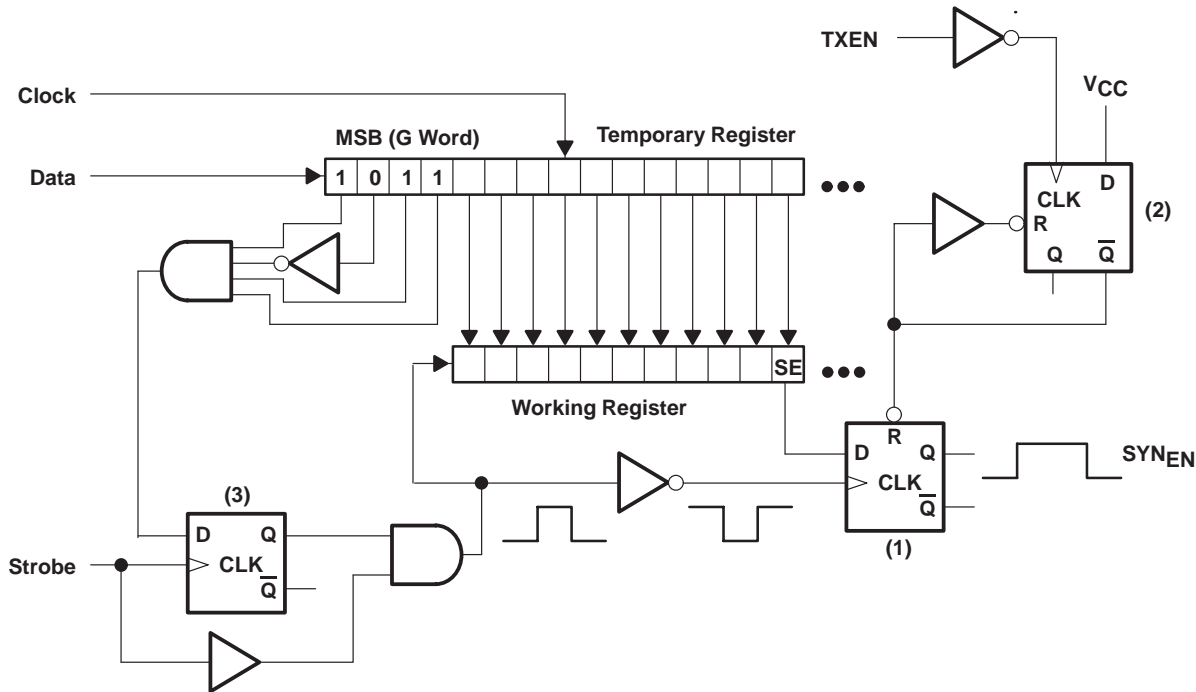
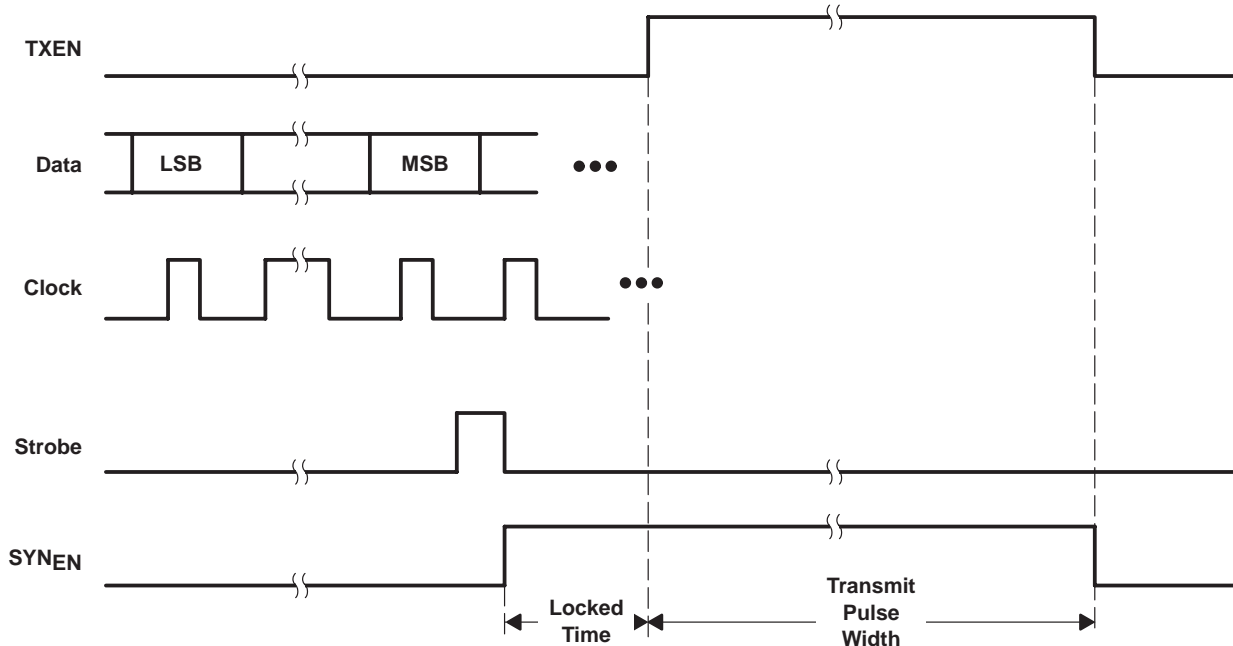

Figure 14. Transmit Intermediate Frequency Synthesizer Reset Circuit
Figure 15. Transmit Intermediate Frequency Synthesizer Reset Circuit Timing Diagram
Figure 14 and Figure 15 reveal that the falling edge of the STROBE toggles the Q output of flip flop (1) to a 1 state, which enables the TXIF phase detector, the TXIF_VCO, the divide-by-N, the TXIF buffer, and the SSB converter. Once the synthesizer is locked, the TXEN signal (enable = 1) turns on the modulator and the VGA. The rising edge of TXEN has no effect on SYN_{EN} as shown in Figure 15. However, the falling edge of TXEN toggles the $\overline{\text{Q}}$ output of flip flop (2) to a 0 state which resets flip flop (1) and causes SYN_{EN} to go to a 0 state, thus disabling the transmit intermediate synthesizer, the I/Q modulator, and the VGA.